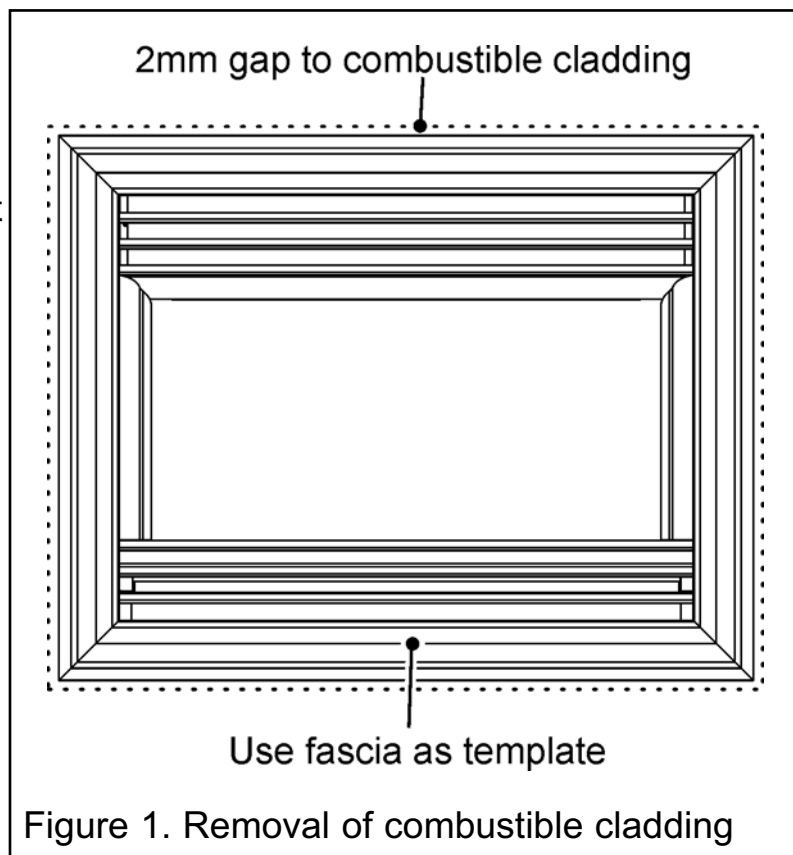

Figure 1. Removal of combustible cladding
5.7.4 If the appliance is to be fitted against a wall with combustible cladding, the cladding must be removed from the area covered by the fascia. The cladding must also not touch the fascia (See figure 1). We suggest that the actual fascia is used as a template to mark the area for combustible cladding removal and that this area is increased by at least 2mm all round.